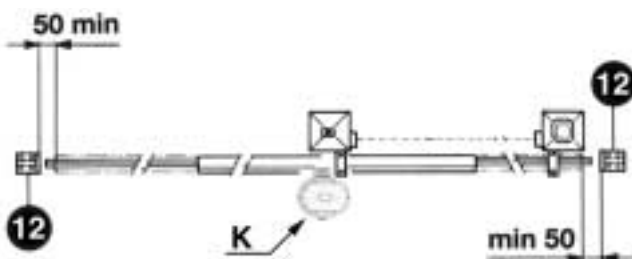

Fig. 2
The guide must be provided with two mechanical stops at its ends (12) (Fig. 2).